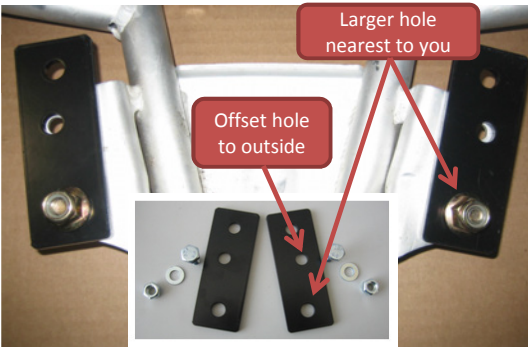

Figure 15
- Locate the two (2) flat brackets with three holes. Orient them as shown (Figure 15). Take note that the larger hole should be closest to you and the offset holes should be to the outside of the bumper.
- NOTE: In Figure 15, the factory hardware has been used to hold the two brackets to the bumper. These will later be removed.
- Locate the winch mount bracket (Figure 16) and attach it using the hardware sent by MotoAlliance (seen in smaller photo of Figure 15). Do not tighten these bolts at this time.
- Remove the factory hardware that was shown in Figure 15 and is no longer shown in Figure 16.